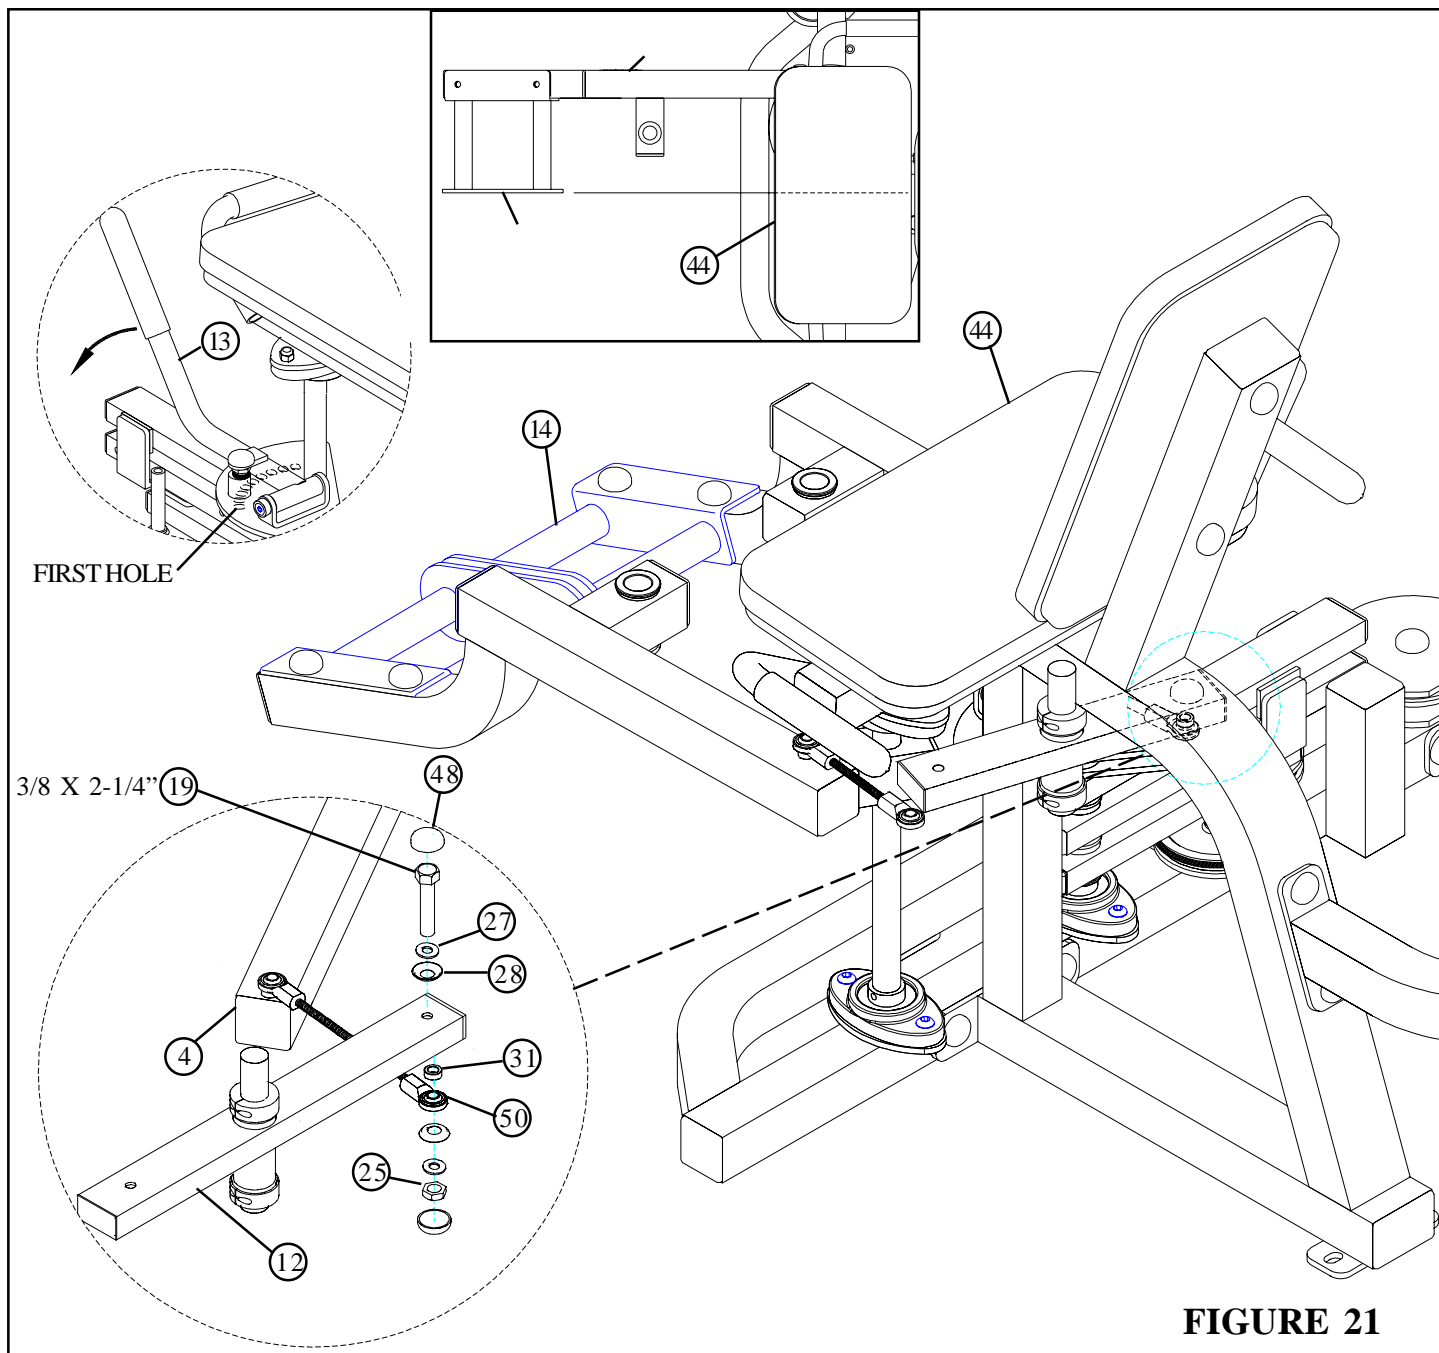

FIGURE 21
- **SECURELY** assemble ROD END BEARING (50) on the RIGHT PIVOT ARM (4) to the PIVOT LINK (12) using two RH CAPS (48), one 3/8 X 2-1/4" BOLT (19), two 3/8" SAE WASHERS (27), two 3/8" RH WASHERS (28), one 3/8 X 1/4" SPACER (31), and one 3/8" LOW HEIGHT LOCK NUT (25) as shown in FIGURE 21. (Note: DO NOT assemble the RH CAPS until all the adjustments have been made.)
- Lift HANDLE (13) on the RIGHT PIVOT ARM (4) and adjust it **forward** to the first hole position.
- For correct alignment of the RIGHT PIVOT ARM (4), the END of the FOOT SUPPORT (14) should be center of the SEAT PAD (44). (SEE TOP VIEW)
- **IF NOT CENTERED:** Disassemble the ROD END BEARING (50) from the PIVOT LINK (12) and rotate BEARING **counter-clockwise** to move PIVOT ARM **forward**, or **clockwise** to move PIVOT ARM **back**. (turn one complete revolution per time then reassemble, and check) Once the PIVOT ARM is centered, tighten bolt and assemble the two RH CAPS (48). Proceed to LEFT PIVOT ARM (5) assembly
- **IF CENTERED:** Assemble the two RH CAPS (48), and proceed to LEFT PIVOT ARM assembly.